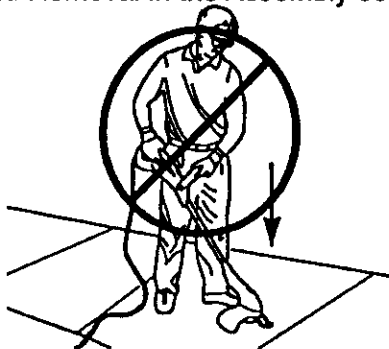

Fig. 15
8. DO NOT BUMP TRIMMER (Figure 15). A "bump" will not advance line. For fresh line follow See REX Disposable Cutting Head Installation and Removal in the Assembly section.